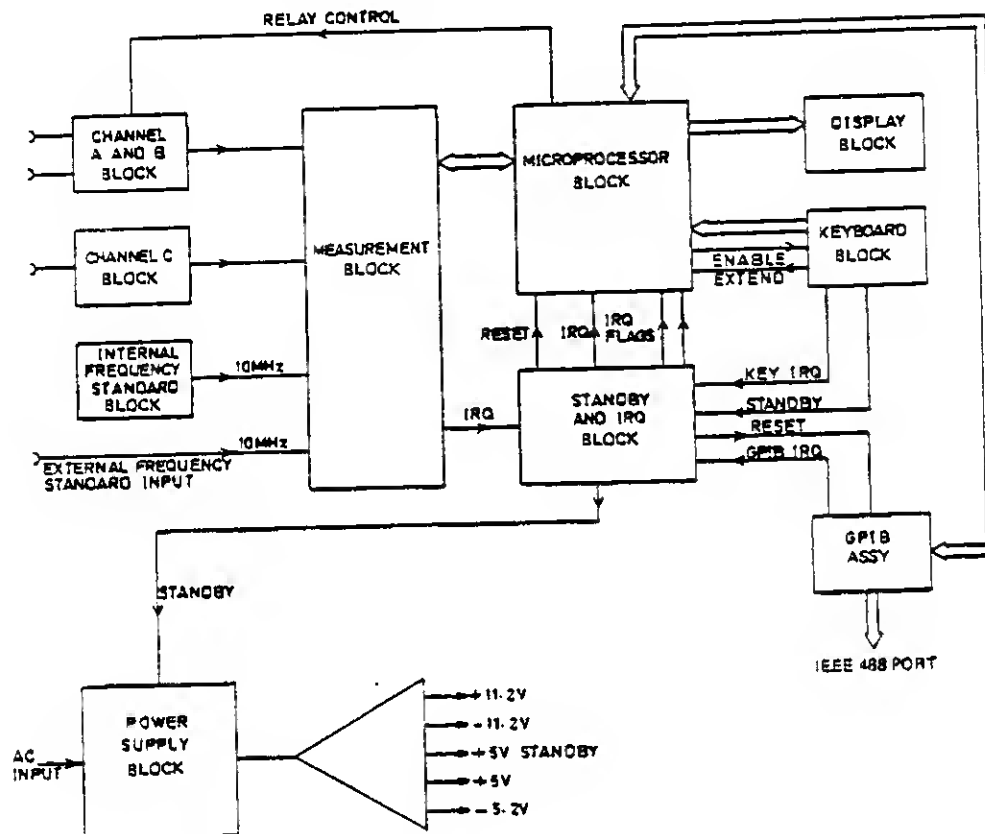

Figure 5.1 - Simplified Overall Block Diagram
**5.1.2**            The theory of operation provided is based on the simplified overall block diagram shown in Figure 5.1. Key circuit blocks of the 1991/1992 are described and supported in this section using simplified block and schematic diagrams. These diagrams supplement the complete schematics found in Section 7 of this manual. As much as possible, the simplified schematic and block diagrams provided here use the same reference designators found in the complete schematics. This should facilitate cross-referencing between this section of the manual and the schematics.
**5.2.2**            The functional relationship between the blocks of the 1991/1992 is illustrated in Figure 5.1. The measurement block is internally configured by the microprocessor according to the instructions entered via the keyboard or over the GPIB. The signal to be measured and the signal from the frequency standard are fed to the measurement block. The measured result is passed to the microprocessor. If mathematical manipulation of the result is required, this is performed by the